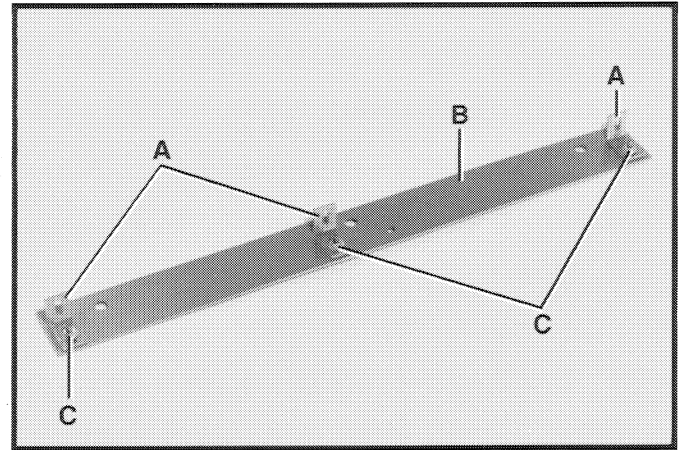

Fig. 29
1. Assemble three brackets (A) Fig. 29, to table adapter plate (B) using three 1/4-20 x 3/4 inch-long carriage bolts (C), flat washers and square nuts. **NOTE:** Do not overly tighten hardware at this time as adjustments must be made.